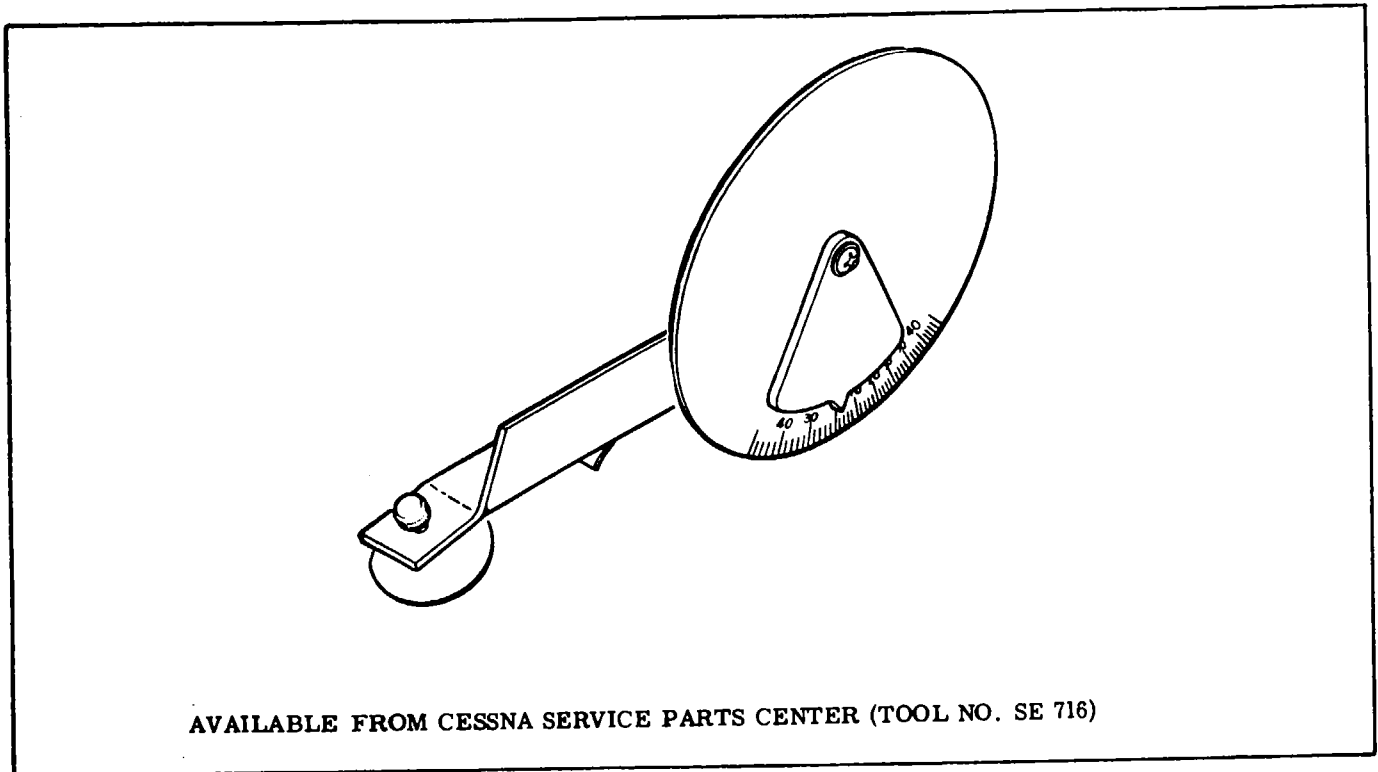

Figure 6-4. Inclinometer for Measuring Control Surface Travel
- h. Check ailerons for correct travel (figure 1-1) using an inclinometer (illustrated in figure 6-4). Make adjustments if necessary and check that the bushing travel stops are properly centered in the bellcranks.
An inclinometer for measuring control surface travel is available from the Cessna Service Parts Center. See figure 6-4.